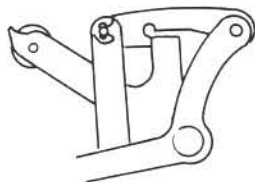

Fig. 29-1
1. The Charge lever assy. (0-C44) hooks the Release lever assy. (0-C62). Refer to Fig. 29-1.